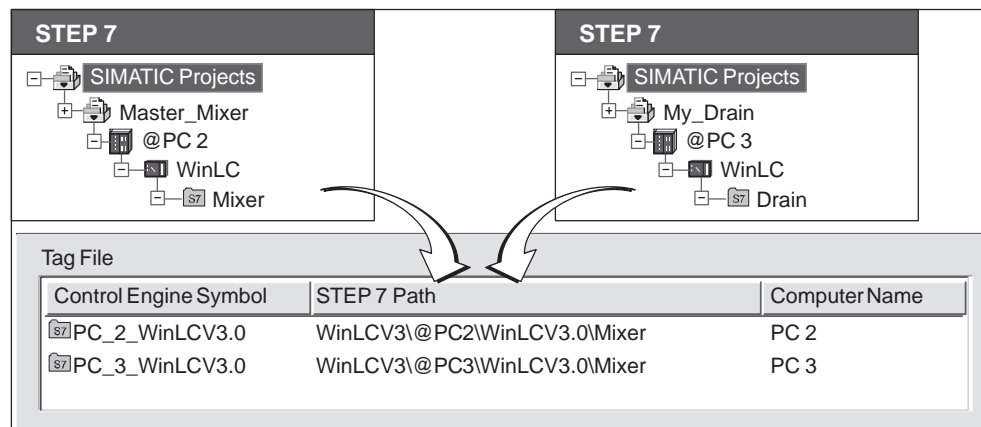

Figure 9-2 Creating a Tag File for Multiple Control Engines
3. Select several programs and add them to the tag file by clicking on the “->” button. Figure 9-2 shows two programs (“Master_Mixer” on PC 2 and “My_Drain” on PC 3) forming a single tag file. When you have added the programs for the tag file, click on the “OK” button.